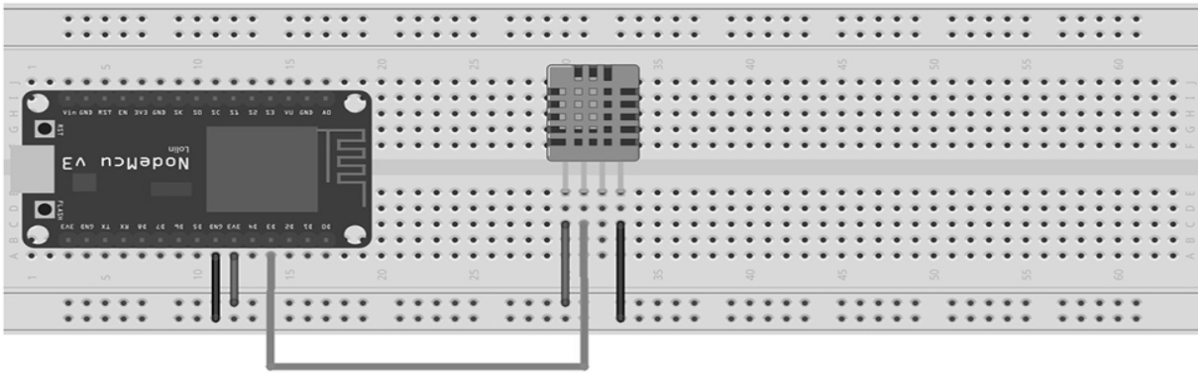

Figure 4.2: Circuit diagram of interfacing NodeMCU with DHT 11
1. Interface DHT11 to NodeMCU as per circuit diagram shown in fig. 4.2.